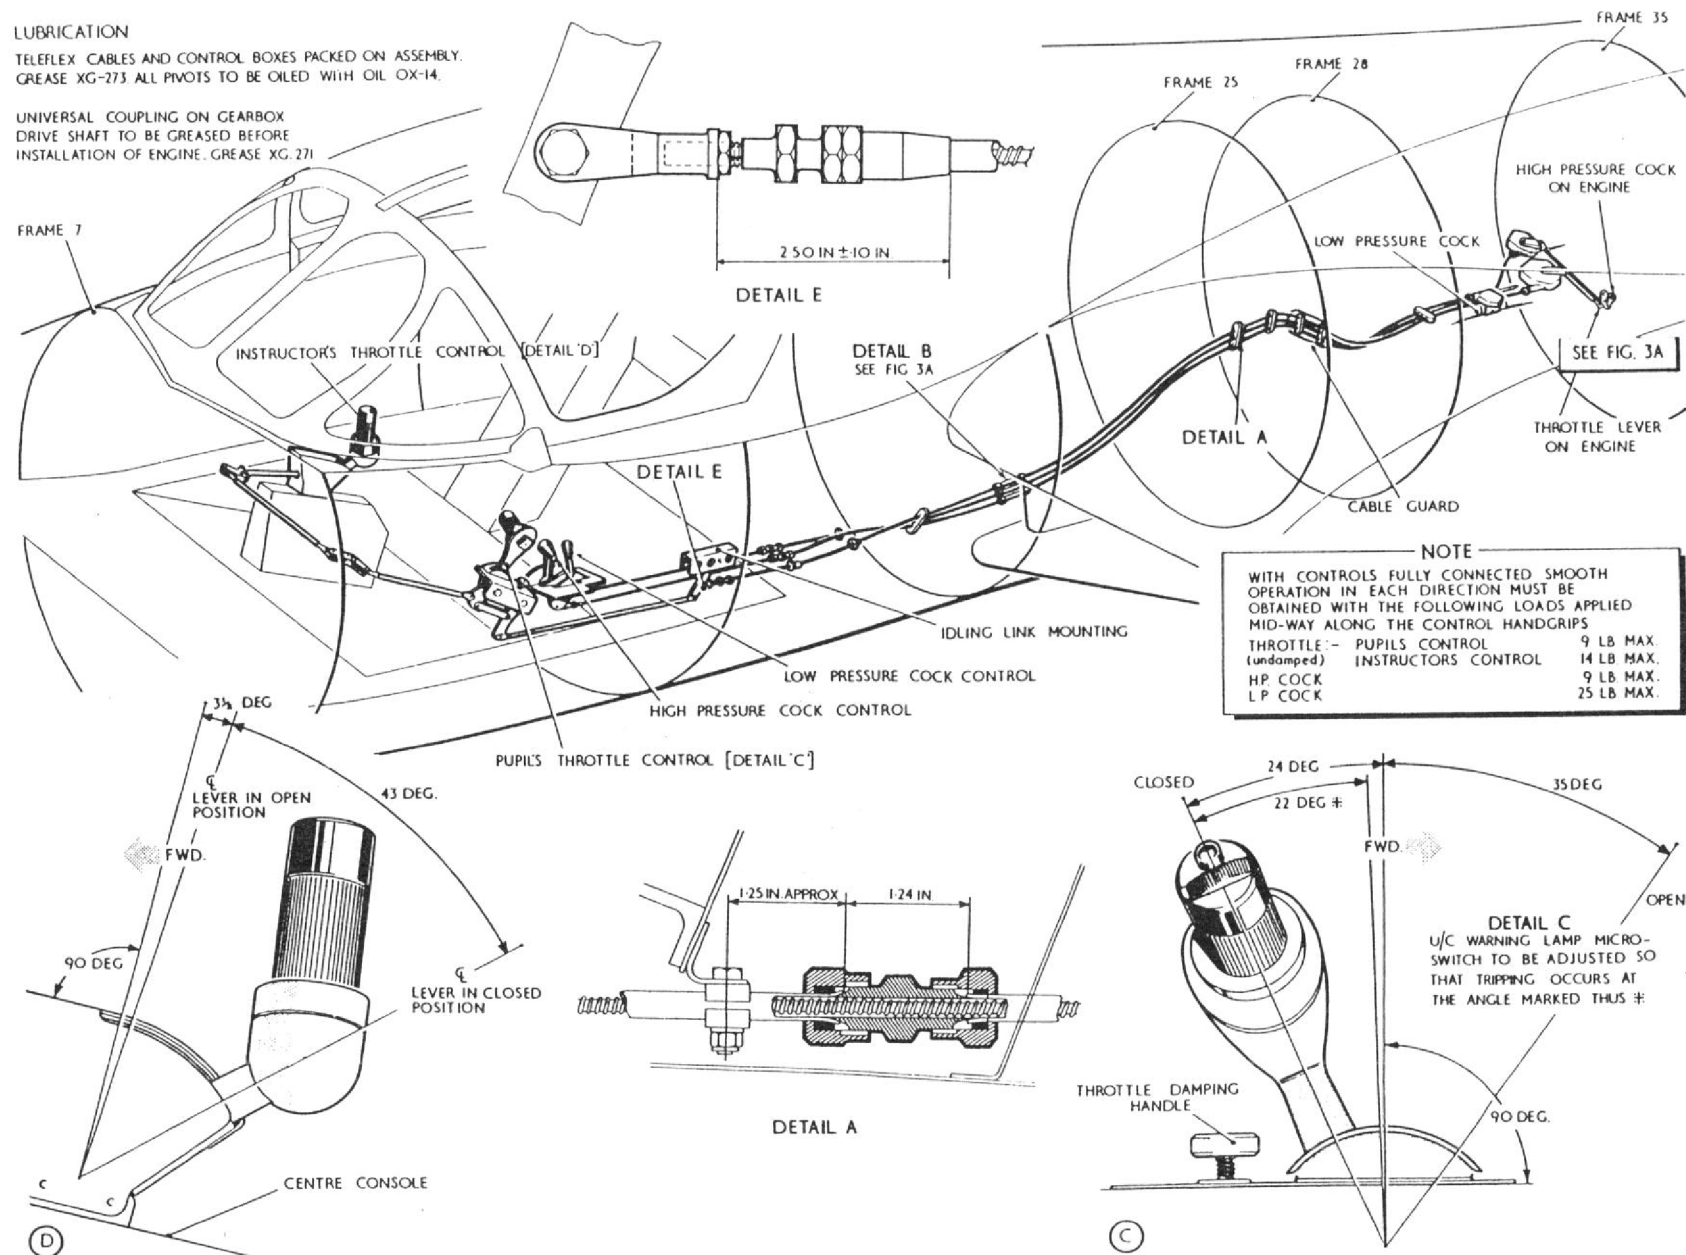

Fig. 3 Engine controls (I)
**Engine controls (fig. 3 and 3A)**
10. To facilitate assembly in the aircraft the connecting rod between the port throttle lever and the idling link (fig.3) is manufactured in two sections. These are connected by an internal liner which is riveted to one section and during assembly the other section is secured to the liner by two bolts. To ensure adequate clearance between the bolts and the lightening holes in frame 11, through which the rod is routed, it is essential that the section of the rod in which the bolts are mounted is connected to the idling link and that the heads of the two bolts are out-board.
ing when being coupled to the aircraft linkage to ensure full control travel. It may also be found necessary to adjust the control rod between the actuating lever of the top temperature control actuator and the bell crank lever but it is important, after such adjustment, that a check be made to ensure that a clearance of 0.125 in. is present in the recess between the bell crank lever and the throttle lever arm when the throttle is fully closed. On completion of the adjustments ensure that all controls are in safety, correctly locked and that they are free from fouling throughout their full range of movement. Lubrication details and control lever settings are given in fig. 3 and 3A.
necessary (Sect. 2, Chap. 2). Lubrication of the engine controls and gearbox universal shaft couplings are detailed in fig. 3, additional information on the gearbox drive universal couplings being given in para. 13.